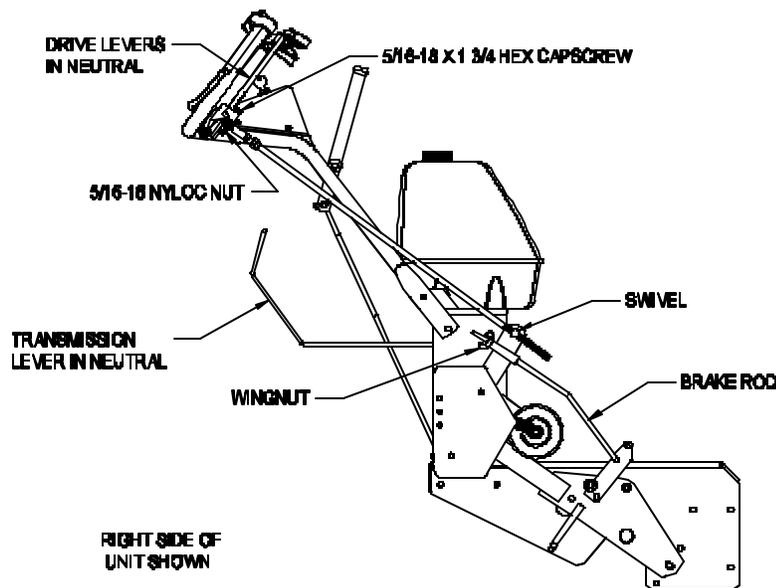

FIGURE 12
- a) Locate the drive lever linkages which have the balljoint and jam nuts installed on one end. Locate the (2) $\frac{5}{16}$ -18 x $1\frac{3}{4}$ Hex cap screws and (2) $\frac{5}{16}$ -18 nyloc nuts in the bolt bag. Thread drive lever linkage into the swivel located on the wheel drive idler arm. Thread in until the flat edge of the drive lever aligns with bottom of the roller notch in the neutral lock/park brake latch when the $\frac{5}{16}$ -18 x $1\frac{3}{4}$ hex cap screw is inserted through the hole in the drive lever and the hole in the balljoint. Secure with the $\frac{5}{16}$ -18 nyloc nut. Tighten nut. Repeat for the other side. See Figures 12 and 13.